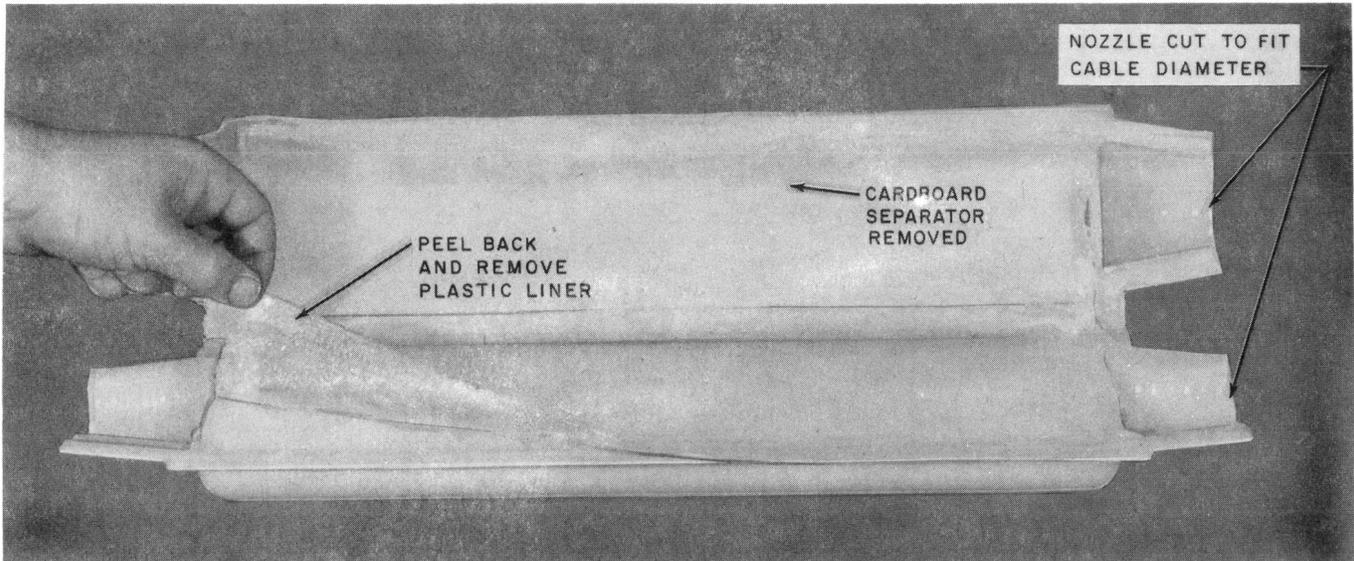

Fig. 12—Preparation of Closure Shell for Cable Placement
3.14 Remove and discard cardboard separator, then peel back and remove plastic liner as shown in Fig. 12.